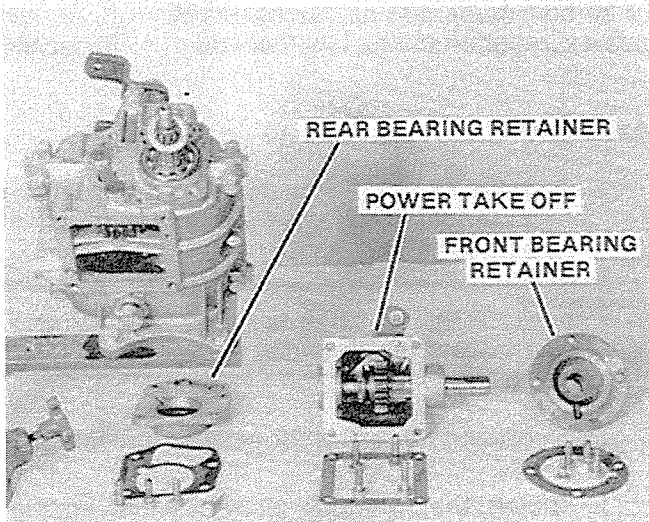

FIGURE 2
4. Remove front and rear bearing retainers. Figure 2.